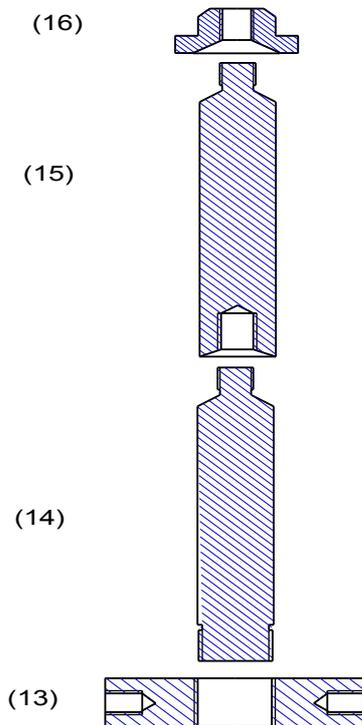

Fig. 7 Piston rod system
Column MAG5_400/900 is used in column stand which can serve also for unpacking of the column. For such purposis is column equipped with piston rod systém which allow to elongate piston tube and press upper piston through whole column length (see Fig. 7). Thus systém consists of a kern (13) which is connected to piston tube *via* .four bolts, two piston rods (14), (15) and upper support (16).